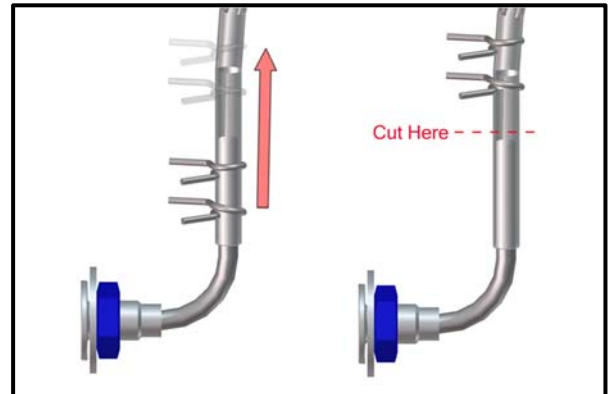

FIGURE 18 – Static Port Disconnection
2. Disconnect existing static ports (if not already done) by moving the two clamps up the poly-flo tubing. Cut the poly-flo tubing near the top of the static port tube (see Figure 18). Repeat for opposite side.